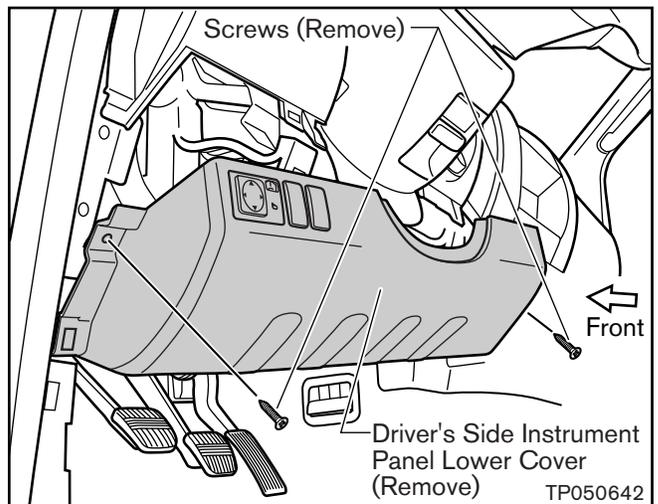

Figure 13
6. Remove two Screws and remove the Driver's Side Instrument Panel Lower Cover (see Figure 13).